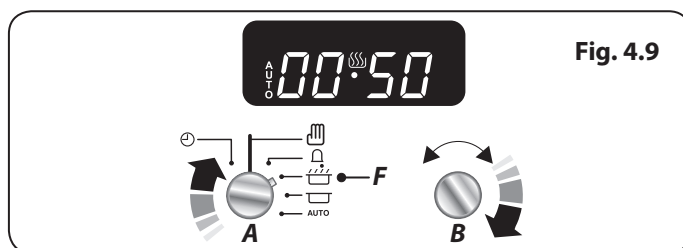

Fig. 4.9
1. Turn the **Timer (A)** knob to the **Cook Time (F)** setting. Turn the **Adjusting (B)** knob clockwise to set the length of the cooking time required (**Fig. 4.9**).